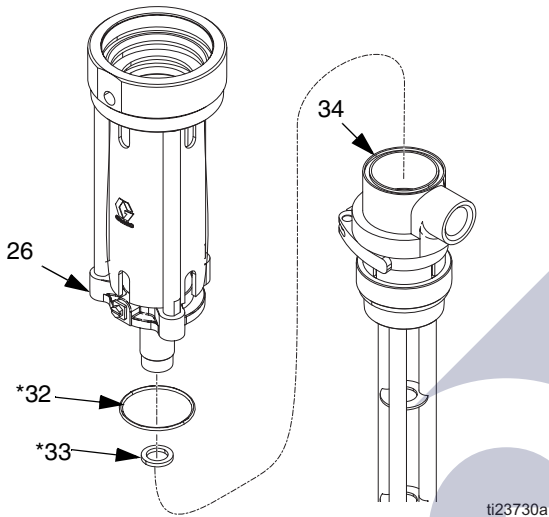

FIG. 23
11. Unscrew mounting flange (26) from pump body (34). Remove o-ring (32*) and PTFE gasket (33*) from pump body (34). Inspect all parts for damage. See FIG. 23.